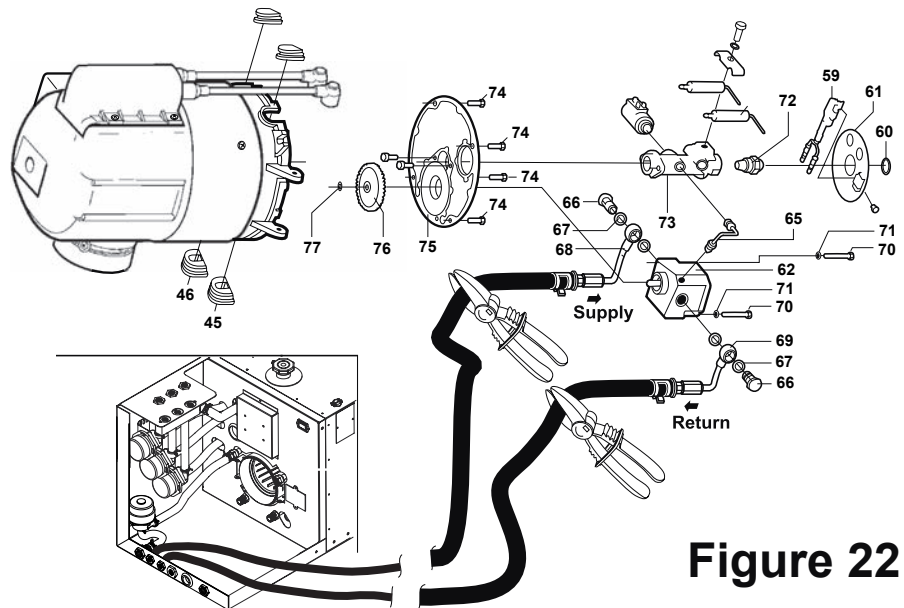

Figure 22
5. Remove the two *Fuel Mounting Screws*, which secure the *Fuel Pump* in place; reference item 70 of Figure 22. Turn the *Fuel Nozzle Manifold Plate* over and remove the *Snap Ring* from the Fuel Pump shaft using Snap Ring pliers; reference item 77 of Figure 22. Remove the nylon *Fuel Pump Gear*, then the *Fuel Pump*; reference items 88 and 72 of Figure 22.
NOTE: Reference Figure 22 for the correct order placement of the (4) *Gasket Rings*. Failure to use the new *Gasket Rings*, and/or the correct order placement, will result in a leaky Fuel Pump.